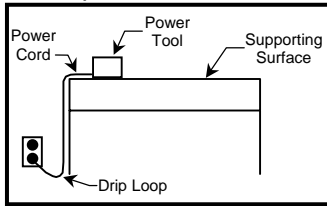

FIGURE 3
**⚠ WARNING** To avoid the possibility of the appliance plug or receptacle getting wet, position the saw to one side of a wall mounted receptacle. This will prevent water from dripping onto the receptacle or plug. A "drip loop," shown in Figure 3, should be arranged by the user to properly position the power cord relative to the power source.